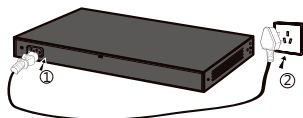

Figure 1.2.2 Schematic diagram of power connection
2. Built in without the need for a power adapter, it can be directly connected to AC 100~240V, 50~60Hz mains power; As shown in Figure 1.2.2